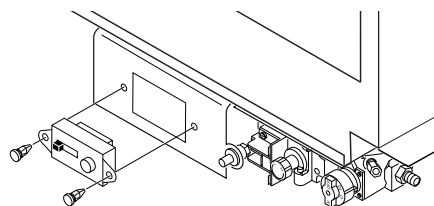

Figure 49 - Installing Remote Receiver
5. Place receiver into valve bracket and align holes (see Figure 49).